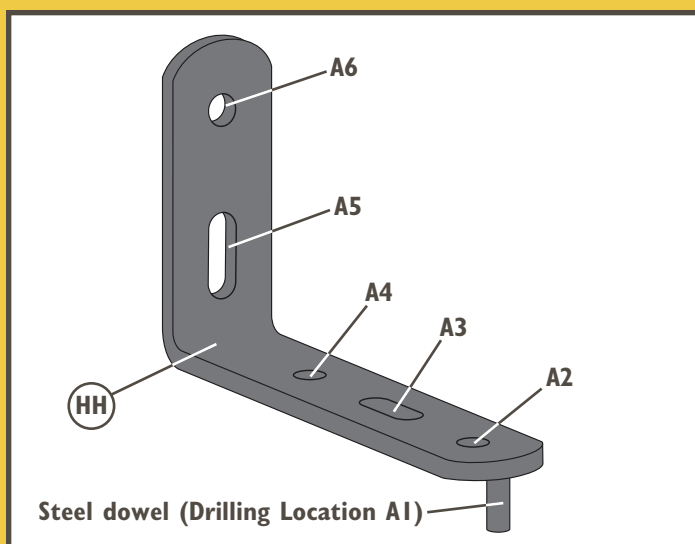

Fig. 5 - Wall Bracket Hole Drilling Locations
1. Carefully working from a step stool or ladder, determine and mark the centerlines of the wall studs above the cabinet and extend the marks 90° out onto the bed cabinet Top (2). (Mark at least two stud locations for Twin and Full beds and at least three for Queen beds.)
2. Along each stud centerline drawn in Step 1, mark Drilling Location A1. **Fig. 5.**
3. Drill a 13/64" diameter x 5/8" deep hole at each A1 location, taking care not to drill all the way through the bed cabinet Top (2).
4. Position a Wall Bracket (HH) at each location, inserting the steel dowel in the hole. Mark Drilling Locations A2, A3 and A4 on the bed cabinet Top and Drilling Locations A5 and A6 on the wall. **Fig. 5.**